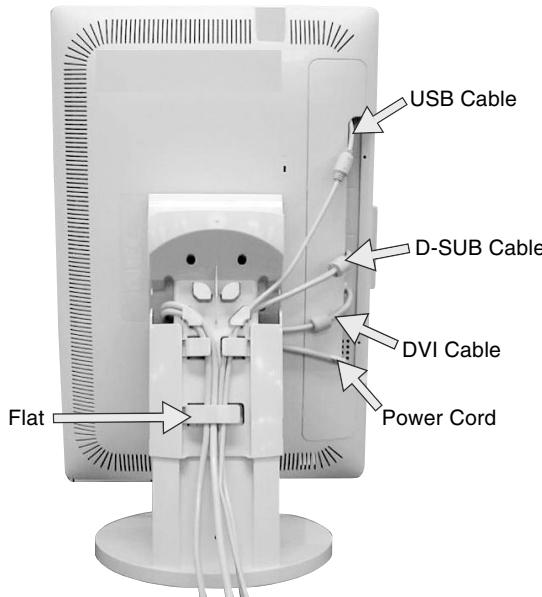

Figure C.6
8. For successful cable management, place the cables into the cable management in this order: Power cord and DVI cable (**Figure C.6**).
9. Place DVI and Power cord into the specific hooks, as indicated in **Figure C.6**.
10. Place the D-Sub and the USB cable into the specific hooks, as indicated in **Figure C.6**.
12. Make sure all cables are resting flat against the stand (**Figure C.6**).